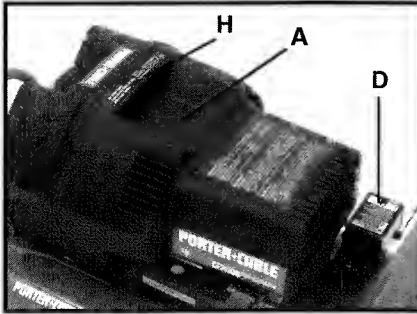

Fig. 1
Air Compressor Pump (A) Fig. 1: To compress air, the pistons move up and down in the cylinders. On each downstroke, air is drawn in through the intake valves. The exhaust valves remain closed. On the upstroke of the piston, air is compressed. The intake valves close and compressed air is forced out through the exhaust valves.
Pressure Switch (D) Fig. 1: The pressure switch automatically starts the motor when the tank pressure drops below the factory set "cut-in" pressure. It stops the motor when the air tank pressure reaches the factory set "cut-out" pressure.
Air Intake Filter (H) Fig. 1: This filter is designed to clean air coming into the pump. This filter must always be clean and free from obstructions. Turn the two cover retaining screws counterclockwise to remove and expose the filter element.